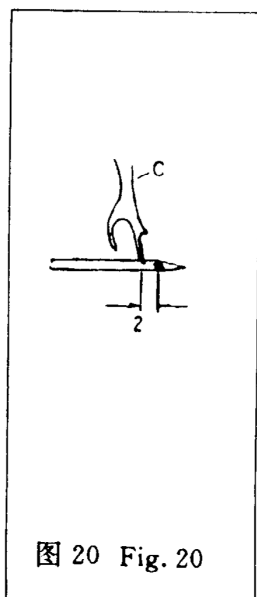

图 20 Fig. 20
钩线叉的左右位置，当钩线叉的长叉尖与机针中心线相交时，长叉尖中心到机针穿线孔左边的距离为 2 毫米左右(图 20)。
When the pronged thread hook intersects the central line of the needle, the centre of pronged thread hook is deviated from the left side of the needle eye in 2mm distance (Fig. 20).
(3) 钩线叉高低位置 钩线叉的高低位置以钩线叉叉尖与机针相交(图 20)时, 间隙很小但又不相撞为佳, 一般要求间隙不大于 0.05 毫米。
Make the prong of thread hook intersect the needle (Fig. 20) on condition that prong shall not come into contact with the needle. The interval between the prong and the needle shall be less than 0.05mm.